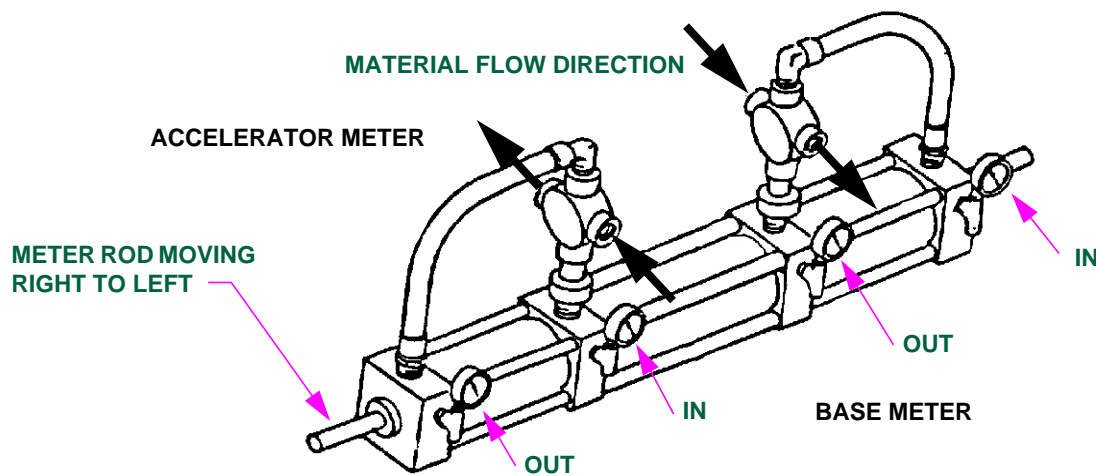

FIGURE 5 - METER INLET AND OUTLET PRESSURE GAUGES
5.11.1 There is an inlet and outlet pressure gauge for both the base and accelerator sides of the meter. Depending upon the direction of travel of the rod connecting the meter cylinders, read the pressure gauges as follows (see Figure 5):